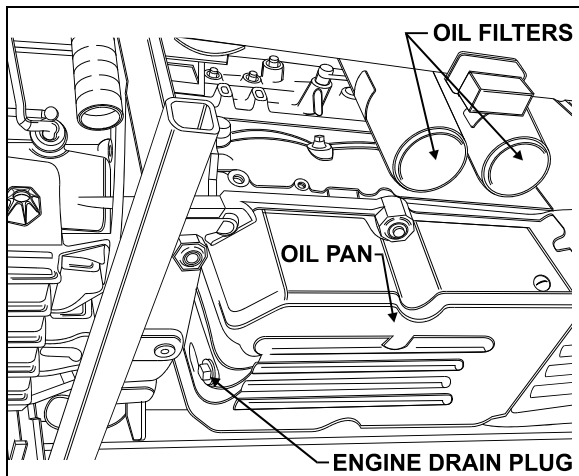

FIGURE 22: ENGINE DRAIN PLUG AND OIL FILTERS
1. From under the vehicle, remove the engine drain plug on the oil pan. Allow oil to drain (Fig. 22).